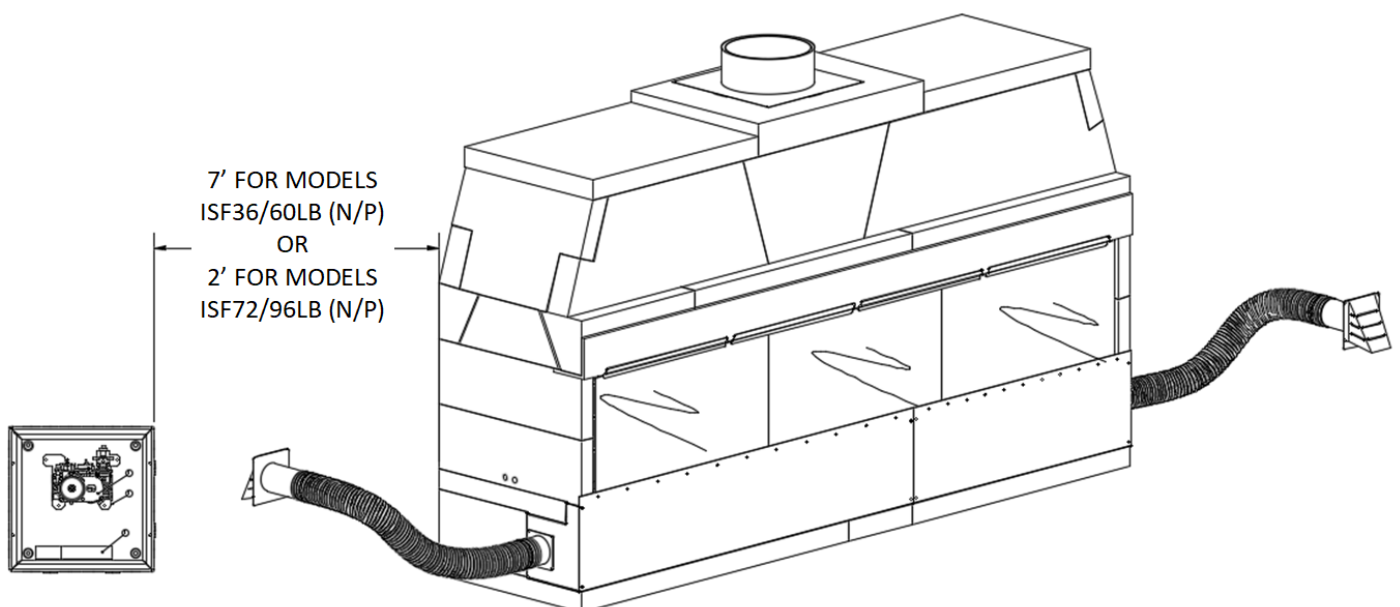

FIGURE 44
- 1) The valve control box comes with an 110" pilot assembly lead; therefore, the box must be mounted within 7' of the fireplace for burner models ISF36/60LB (N/P) and within 2' for models ISF72/96LB (N/P). **(Figure 44)**